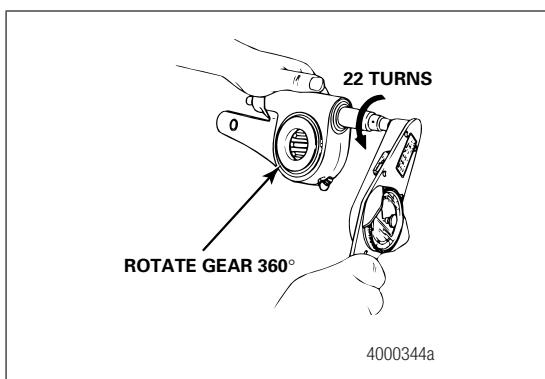

Figure 4.4
4. Use a lb-in torque wrench and turn the adjusting nut COUNTERCLOCKWISE (Figure 4.4) to rotate the gear 360 degrees, or 22 turns of the wrench, as you read the torque scale on the wrench. The value should be less than 25 lb-in (2.83 N·m) as you rotate the gear.